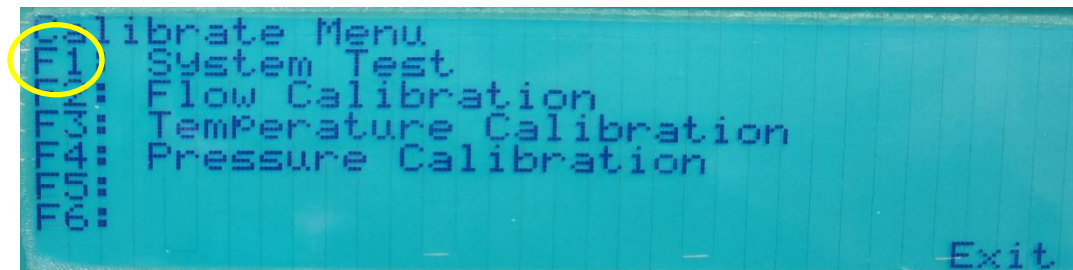

Figure 17: Calibration menu
3.3.4 Press “**F1**” to reach the System Test window (Figure 17)